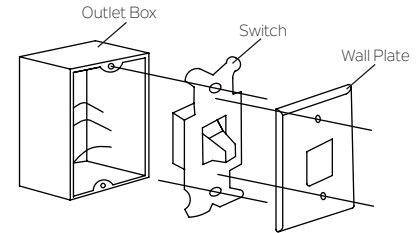

Fig. 15
Step 1. Remove the existing wall plate and the old switch from the wall outlet box. Disconnect wires. (Fig. 15)